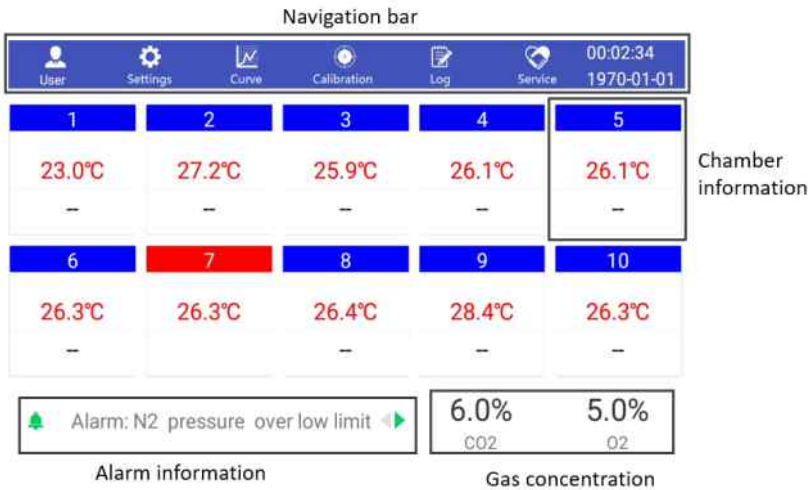

Figure6.2 User interface
3.After starting the instrument, the user interface will be displayed as shown in Figure 6.2. The navigation bar is designed at the top of the interface. Clicking a button will display the specified page, and the current date and time are displayed on the right side. The middle part of the interface is the content bar, which presents the information of 10 chambers, including the number of chambers, real-time temperature of chambers, patient names, etc. The lower part of the interface is the status bar, including the left side to display the current alarm information, click , the icon is switched to . When the speaker is muted, click,  the icon is switched to , cancel the speaker muteness; The real time value of CO₂ and O₂ is displayed on the right. If there is an alarm, click the alarm button to open the alarm interface, and see the alarm information according to Section 6.9 and take corresponding measures.